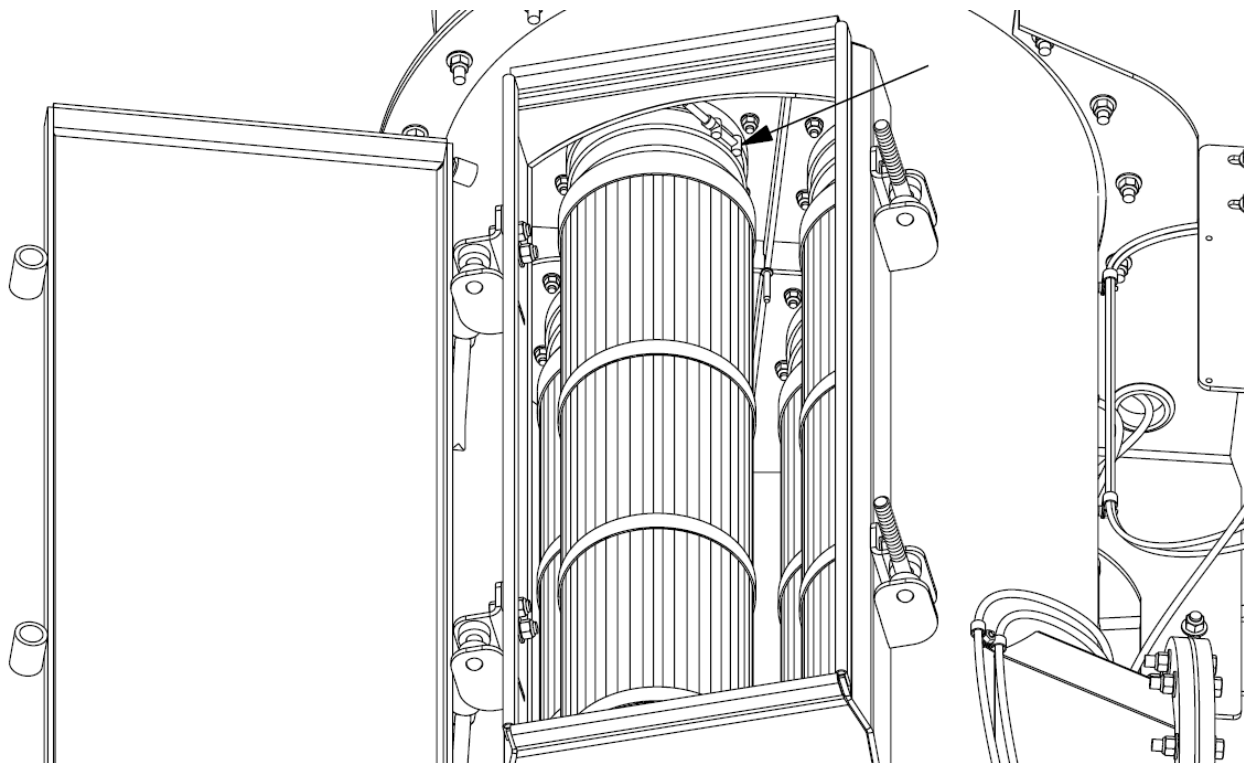

Figure 7-22: Filter T-bolt clamp
7. Secure the filter in place by tightening the T-bolt clamp, refer **Figure 7-22**.